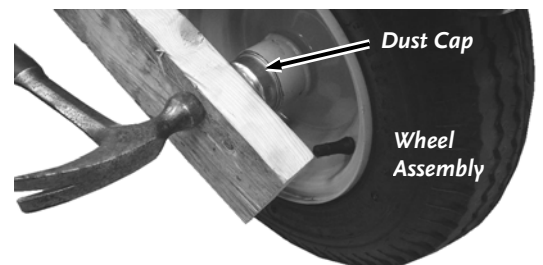

Figure 43
11. Place the Dust Cap onto the Wheel Assembly and secure it by placing a piece of wood over it and pounding lightly with a Hammer until it is seated against the lip (**Figure 43**).